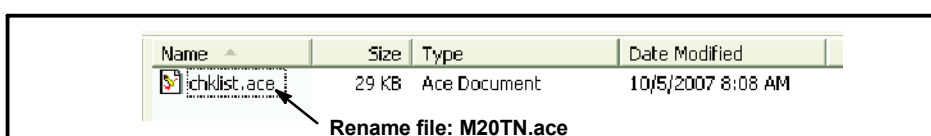

**FIGURE SB-306-4 - VERIFY THE SOFTWARE VERSION ON SPLASH SCREEN**
6. When complete, one file will be updated (see FIGURES SB-306-4).